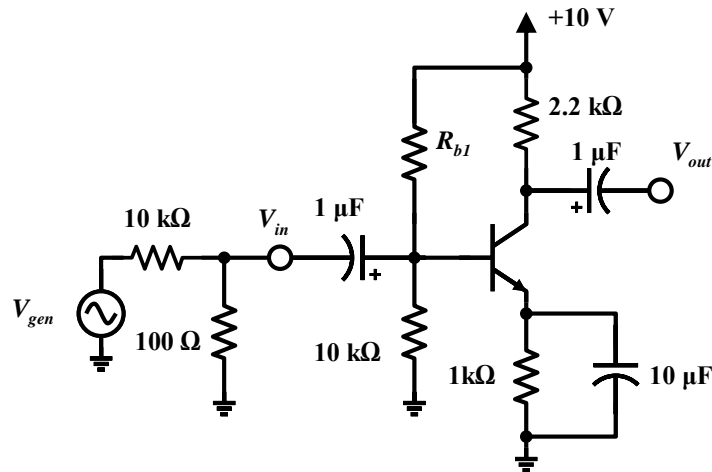

Figure 3-1 – Common-emitter amplifier (with input divider).
Figure 3-1 shows an AC-coupled common-emitter amplifier, similar to the CS amplifiers from the previous lab. We will use this circuit to explore the frequency response of the CE/CS amplifier topology. Since the circuit has a rather high gain, we have included a resistor divider network at the input to keep the input signal small.
- Using a 2N3904 in the circuit of Figure 3-1, first calculate the base resistance R_{b1} that is needed to bias the device at a collector voltage of $V_c \approx 6 - 7V$. Assume a nominal value of $\beta \approx 200$ for this calculation (document your work in your lab report).
Note: it may be hard to see V_{in} directly on the scope since it is a small signal. If so, using signal averaging on the oscilloscope may help. Another alternative is to temporarily increase the input signal until V_{in} is easily measurable and the step-down ratio of the input voltage divider can be determined accurately (for example, in Figure 3-1 the input divider reduces the input signal by a factor of 100 nominally). From that point on you can just observe V_{gen} on the scope and apply your measured scaling factor to indirectly determine V_{in} .
In your lab report, use the measured data to create a Bode plot of the gain-frequency response of the amplifier in Figure 3-1.